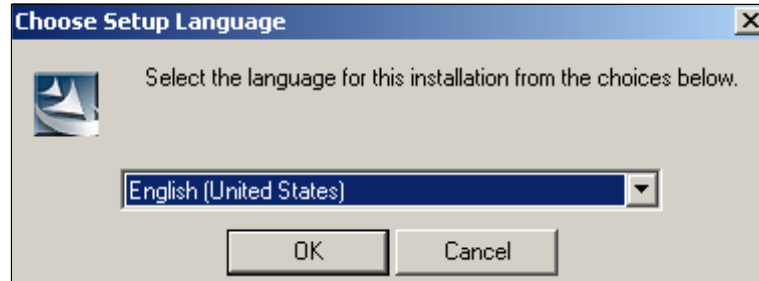

Figure 7-10 Setup LAN Console
1. After you insert the System i Access for Windows V6R1 DVD, the window shown in Figure 7-10 appears. Select the language you require, and click **OK** to continue.